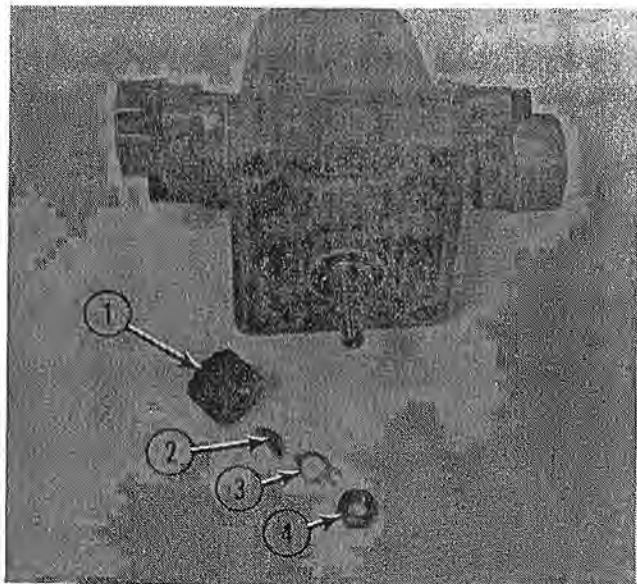

FIG. 4
Figure 4 shows the drive hub removed from the pump shaft with related parts.
- (1, Fig. 4) Drive Hub
- (2, Fig. 4) Woodruff Key
- (3, Fig. 4) Locking Washer
- (4, Fig. 4) 6 mm. Hex Nut
Note: When re-assembling the drive hub to the pump shaft, you must be careful not to over-torque the 6 mm. nut, (4, Fig. 4)
After the 6 mm. nut is properly torqued, bend up the locking tabs on the locking washer. (3, Fig. 4)